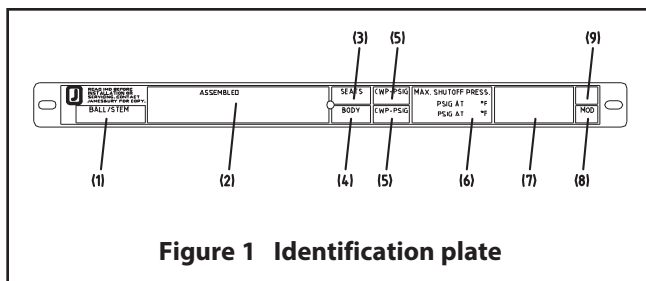

Figure 1 Identification plate
The valve has an identification plate (19) attached to the flange (see **Figure 1**).